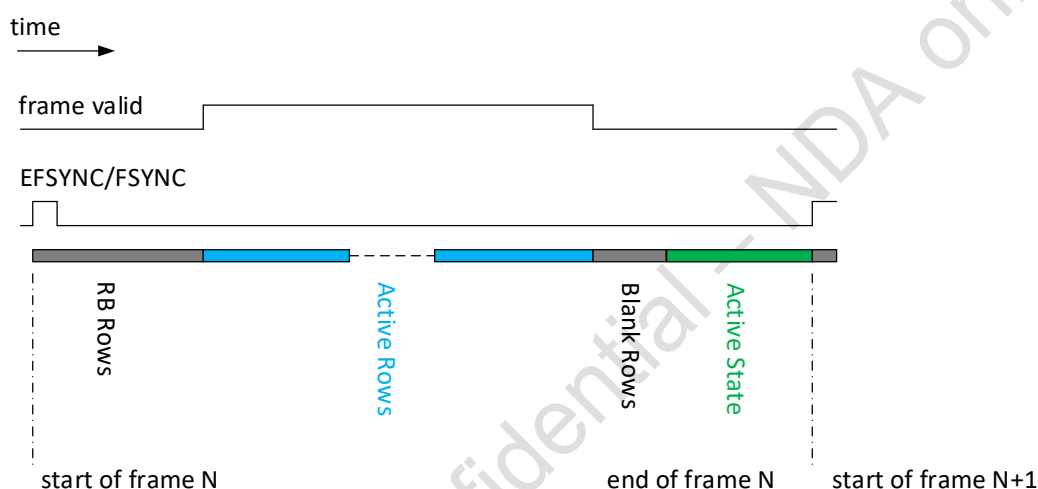
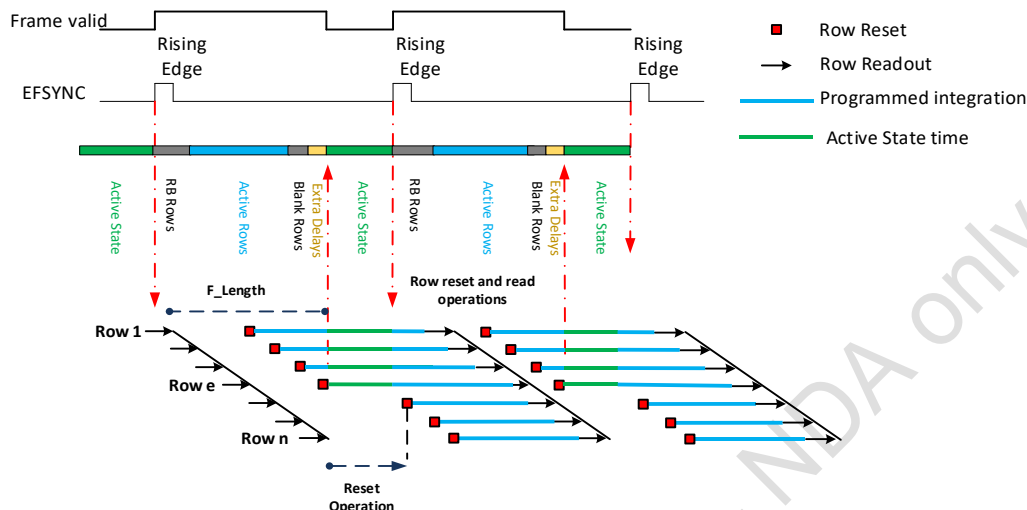

Figure 2-1 Slave mode timing diagram
Figure 2-2 Slave mode exposure implementation chart
In the slave mode, data output of this chip is triggered by an external signal applied to the EFSYNC pin or FSYNC to achieve synchronization of multiple sensors. The frame rate is determined by the triggering signal. Figure 2-1 shows the timing diagram of the slave mode which consists of the following time intervals: Active State, RB Rows, Active Rows, Blank Rows, and Extra Delays. The exposure implementation in the slave mode is shown in Figure 2-2.
From Figure 2-1, the slave mode workflow can be detailed as follows:
The exposure in the slave mode is shown in Figure 2-2.
- 3) During Active State, the chip stops output and stops the Row reset operation, as shown in Figure 2-2. This will result in exposure time being different in a frame image such that the exposure Row 1 to Row e and Row (e + 1) to Row n having different integration time, resulting in the top e rows exposure time being larger than the bottom of n-e rows. The time difference is Active State time as shown as Reset Operation time in the diagram. In order to avoid this exposure difference, the external high precision control EFSYNC/FSYNC is required to keep the Active State within 40ns, ensuring the exposure time of each row in one frame is basically consistent.